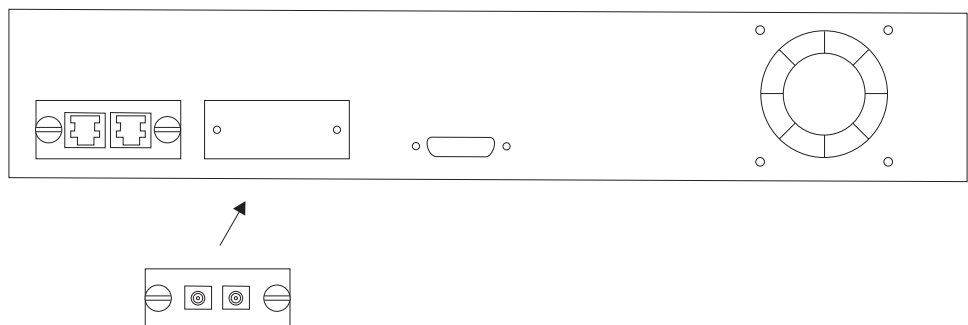

Figure 2-4. Installing an Expansion Module
**Step 3.** Insert the new expansion module (either type), ensuring that the edges slide through the guides as shown in Figure 2-4.